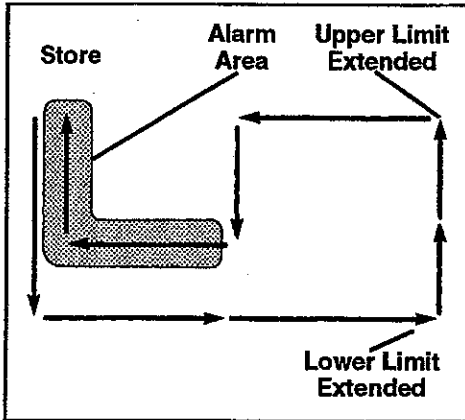

Fig. 23. Hook Movement Diagram
2. Momentarily press the "LOCK" push button. Hook should lower, fully extend, fully raise, partially retract, lower, and then fully retract. Alarm should activate during area of movement shown in diagram, Figure 23.